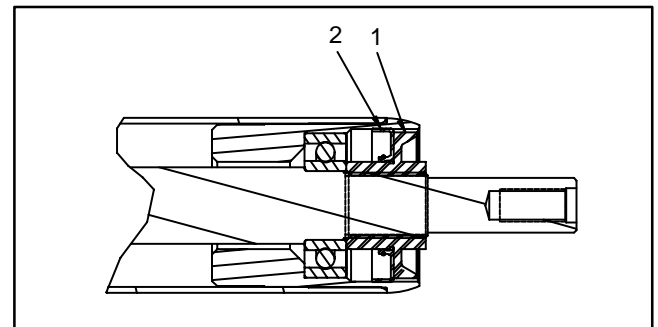

Figure 33
7. Install a nut with seal onto each end of the roller shaft. Tighten nuts until they bottom against bearings (Fig. 33). Remove nuts from roller shaft.